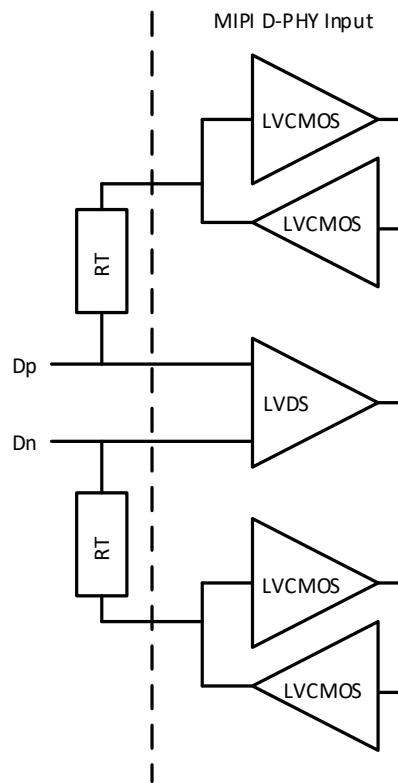
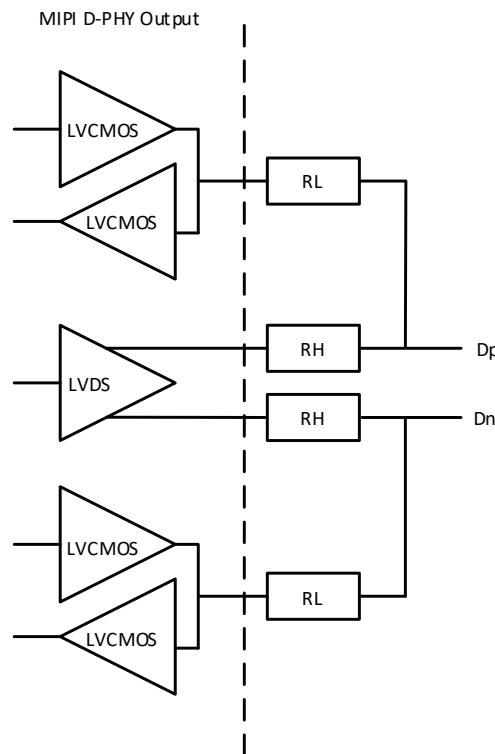

Figure 3.4. MIPI D-PHY Input Using External Resistors
Figure 3.5. MIPI D-PHY Output Using External Resistors
MachXO3D devices can support MIPI D-PHY unidirectional High Speed (HS) and bidirectional Low Power (LP) inputs and outputs via emulation. In conjunction with external resistors, High Speed I/O use the LVDS25E buffer and Low Power I/O use the LVCMS buffers. The scheme shown in Figure 3.4 is one possible solution for MIPI D-PHY Receiver implementation. The scheme shown in Figure 3.5 is one possible solution for MIPI D-PHY Transmitter implementation.